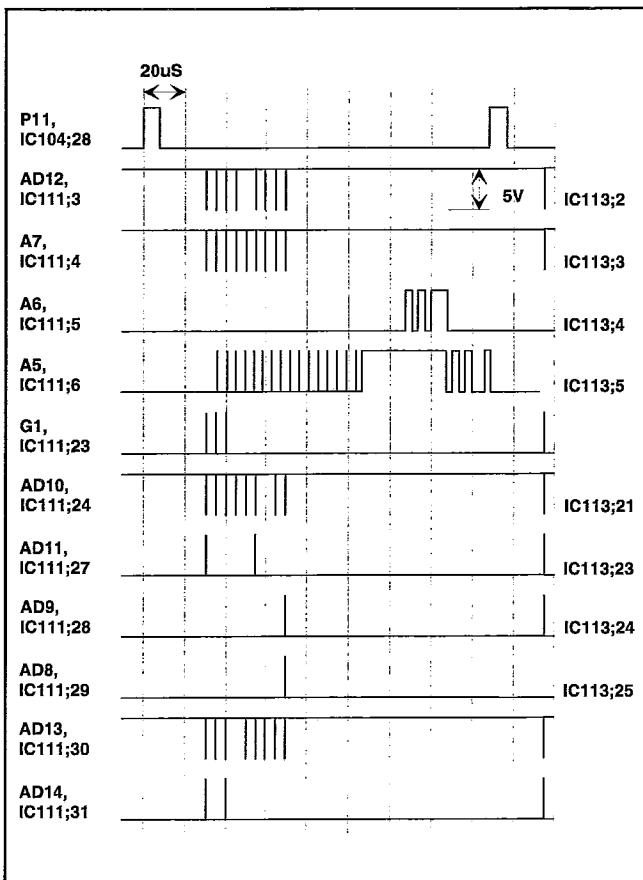

Fig. 5-8 Timing diagram for μ C kernel.
- The timing diagram, fig. 5-8, shows the signals generated by the stimuli program.